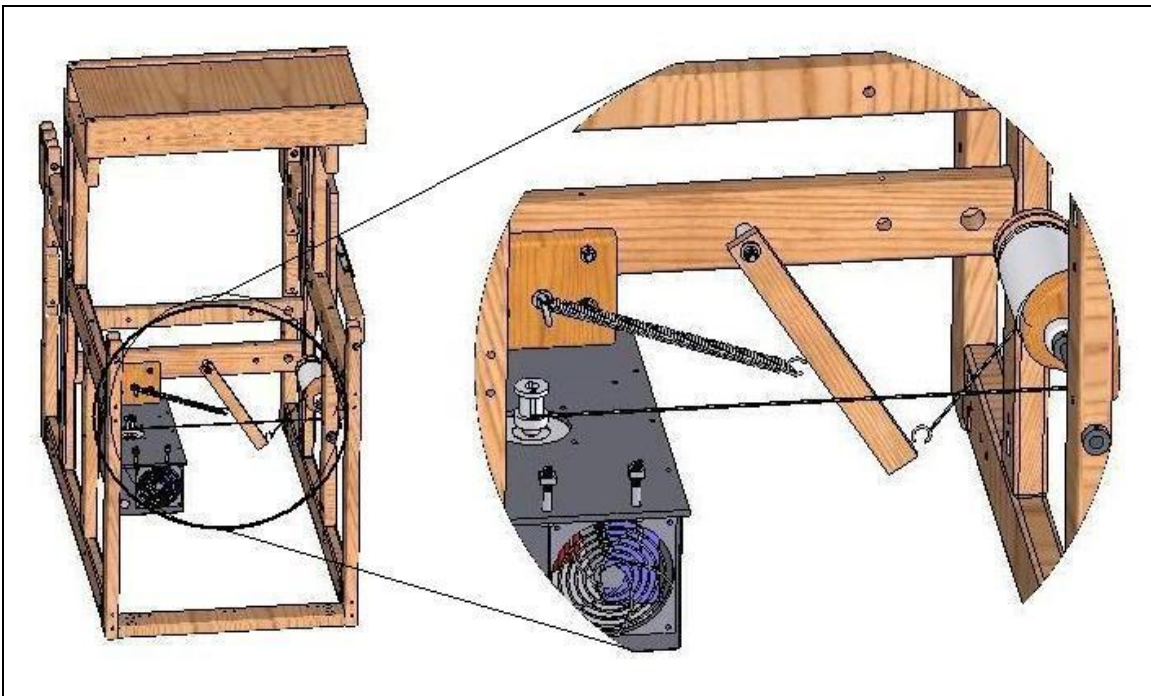
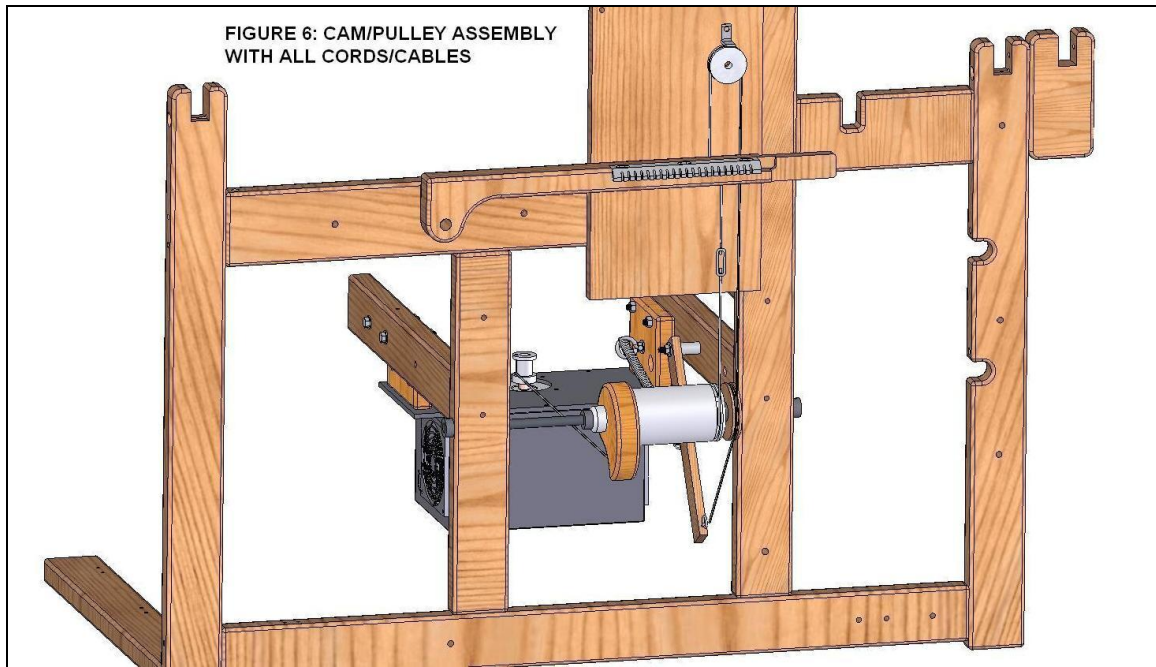

Figure 4 – Mounted Spring Lever Assembly
Figure 6 – Cables installed
4) Mount the Spring Lever Assembly – (see Figure 4) Into Hole #1, insert one (1) 5/16–18 x 3-1/2” Hex Bolt with one (1) 5/16 Washer, from the outside of the rear
2) Mount the Spring Assembly – (see Figure 4) On the inside of the loom, into the hole located in the mid-section of the rear Mounting Block, insert the 1/4-20 x 2-5/8 Eye Bolt, with one (1) 1/4-20 Hex Nut and one (1) 1/4" Washer. Secure it, on the outside of the Mounting Block, with one (1) 1/4" Washer and one (1) 1/4" Nylock. Stretch the #8350 Spring from the Eye Bolt to the Eye Hook centered on the facing side of the Spring Lever.
4) Replace Cam-Pulley Axle – (see Figure 6) Attach the Dobby Arm Cable to the new Cylinder, using the retainer to hold the Nico tip in place on the new Cylinder. Starting from your left, insert the Axle through Leg "A" so the end extends a few inches into the middle space between Legs "A" and "B". As seen in Figure 4 and in this order, slide the following components onto the Axle:
5) Installing the Cords (see Figure 6)